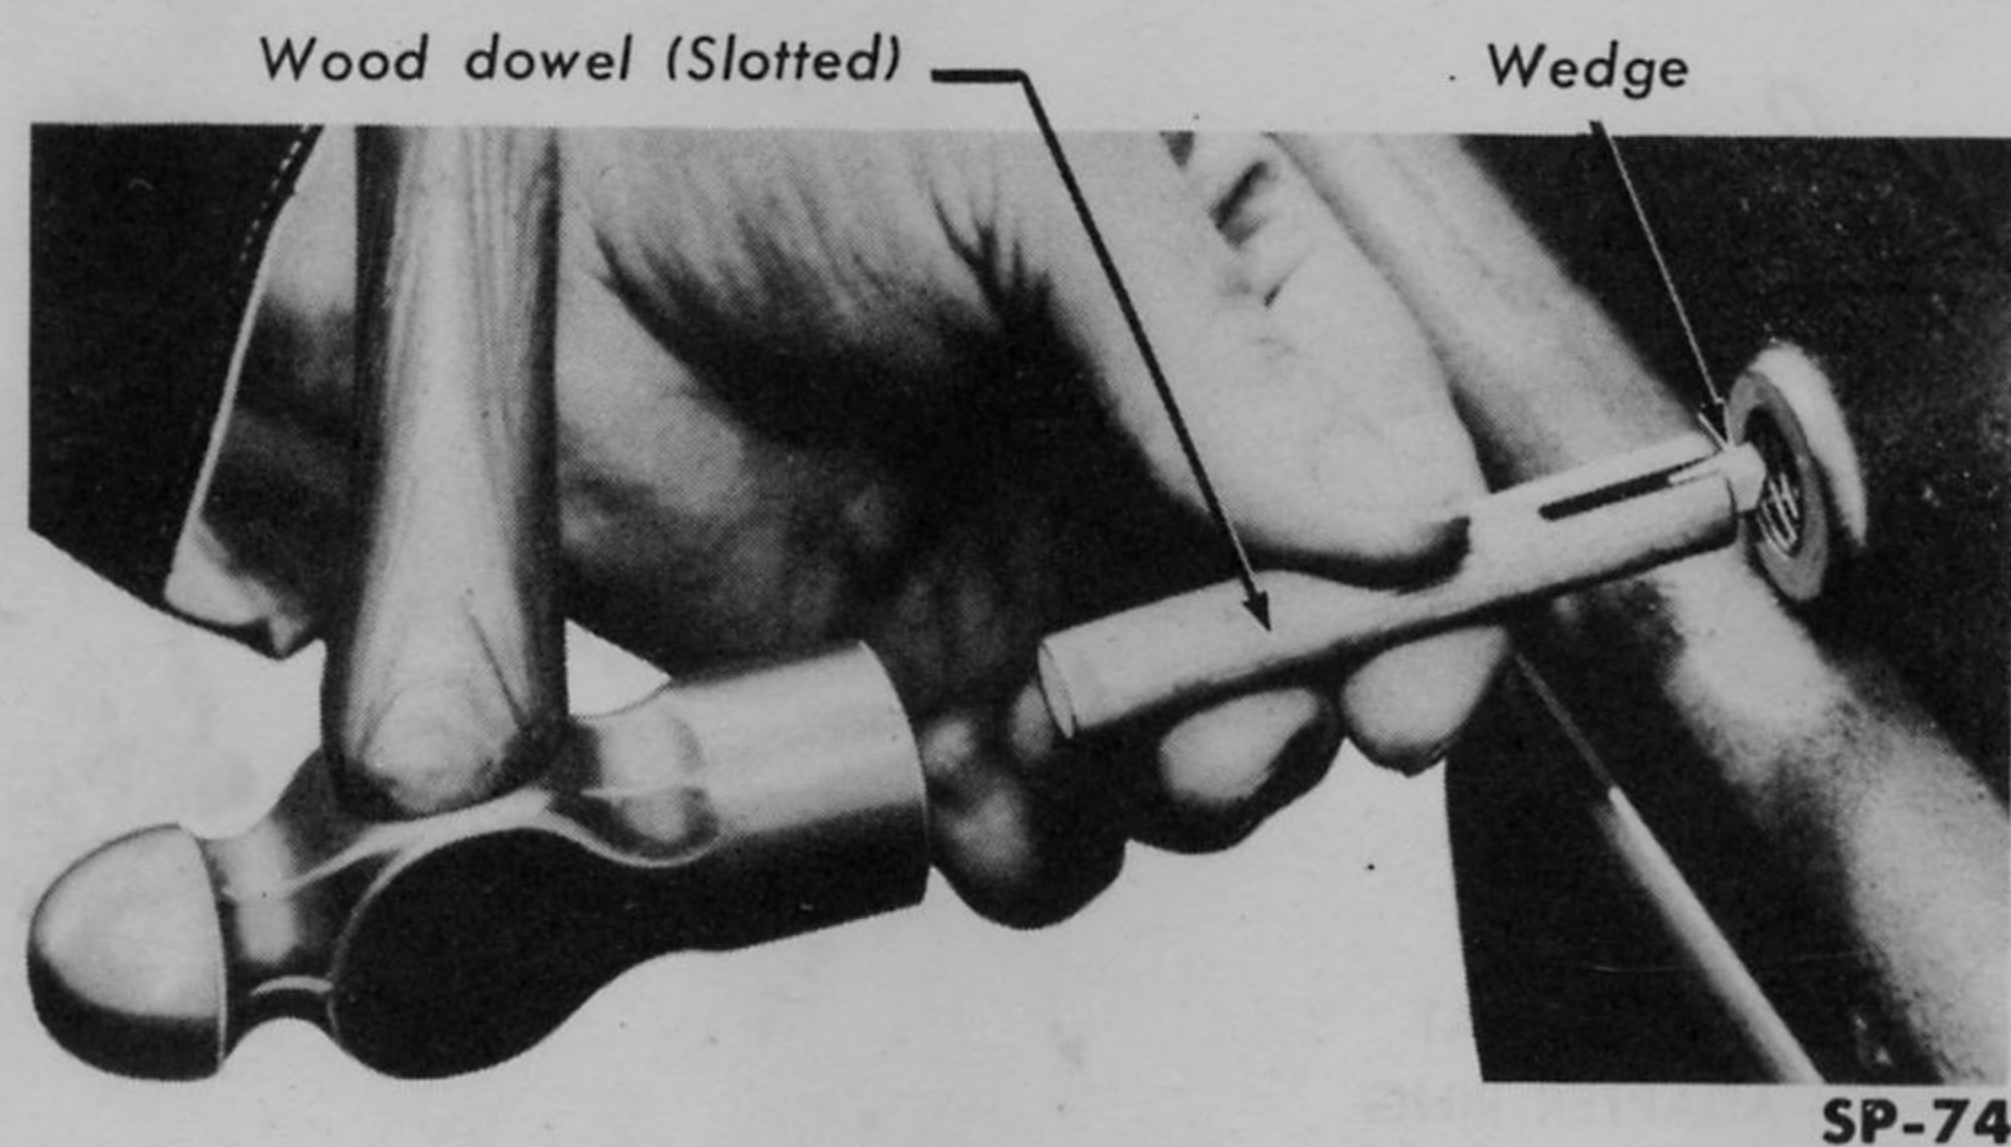

Fig. 33—Removing Oil Pressure Relief Valve with Wedge
3. If the valve sticks and cannot be removed with the pliers, a wooden wedge may be used. To make the wedge, cut a slit in the end of a piece of wooden dowel stock and insert a small wedge into the dowel just far enough to hold the wedge securely (Fig. 33).